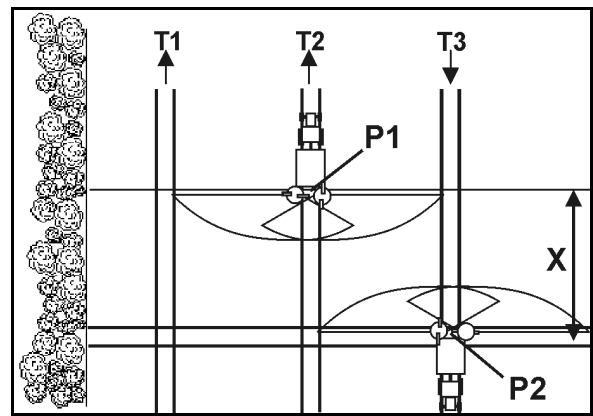

Fig. 75
- Open the slide gate after entering the tramline at point P1 (Fig. 75), when the spreader discs are at distance X from the tramline of the headland.
- Close the slide gate before leaving the tramline at point P2 (Fig. 75), when the spreader discs are located at the level of the first tramline of the headland.